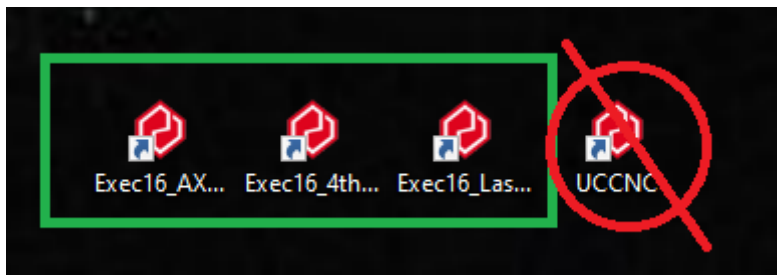

Figure 27: The UCCNC shortcut you should now have on the desktop
- Double click on the icon on your desktop that the profile installer created in Step 3. This should be "machine Model here" on the desktop (as shown in Figure 27)